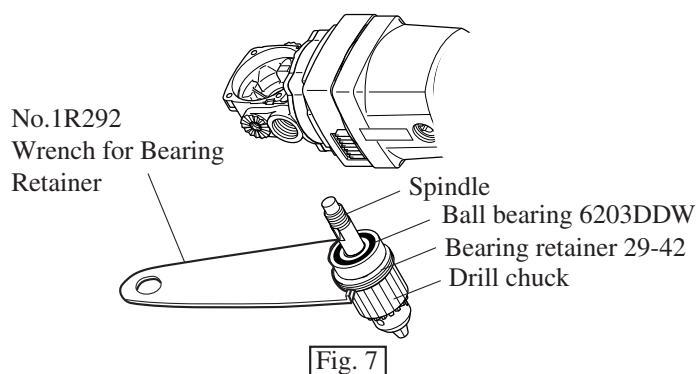

Fig. 7
- ( 2 ) Mount the assembled drill chuck into gear housing, and then, assemble bearing retainer 29-42 by turning it with 1R292 "Wrench for Bearing Retainer", anti-clockwise, in stead of clockwise. See Fig. 7.
And then, assemble sleeve 17, woodruff key 5 and spiral bevel gear 40 to spindle as per Fig. 7 A.